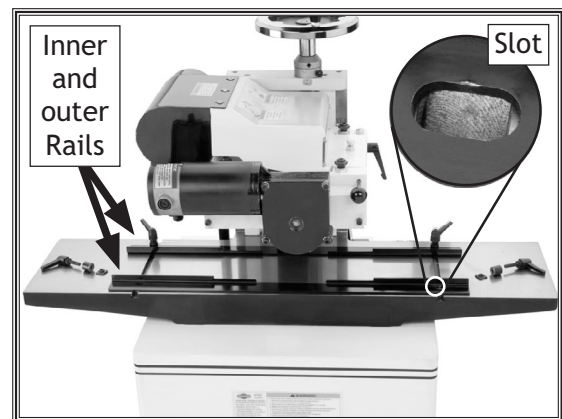

Figure 15. Rail installation.
15. Install two T-nuts in each table slot (**Figure 15**).
16. Position the inner and outer guide rails so the elongated T-nut slots (**Figure 15**) are positioned on the infeed table.